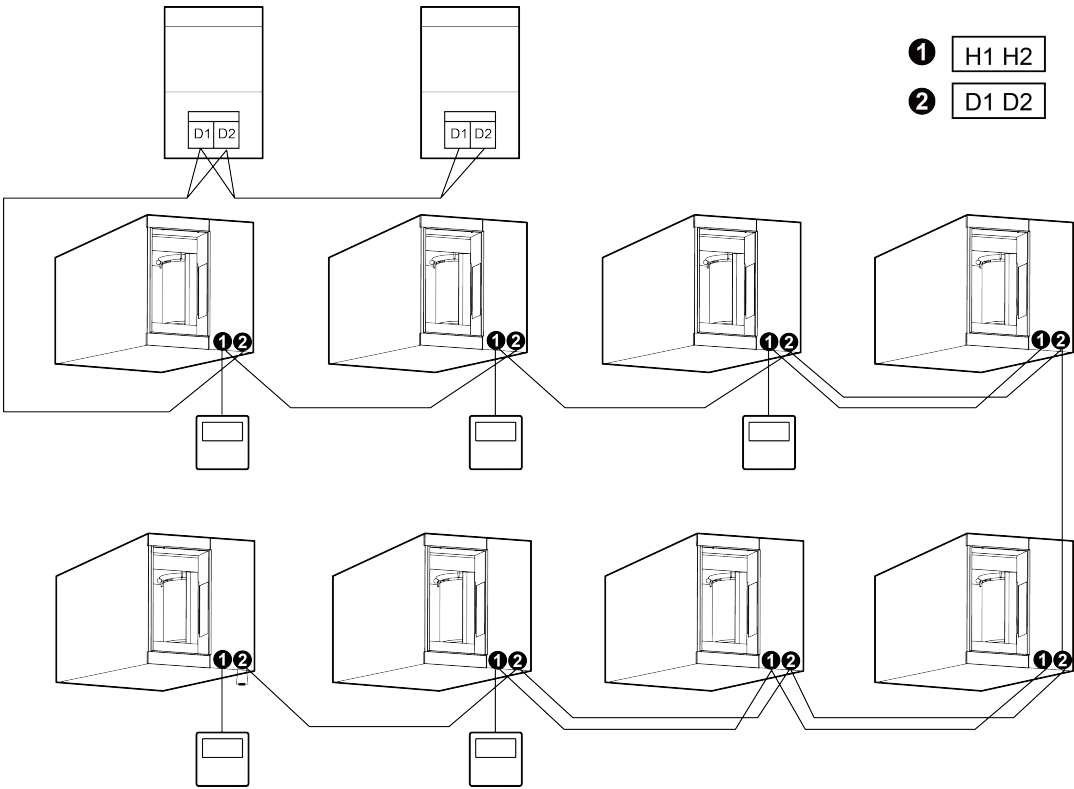

Fig.5.5
- (4) One wired controller can control 16 indoor units in maximum at the same time (As shown in Fig.5.5).